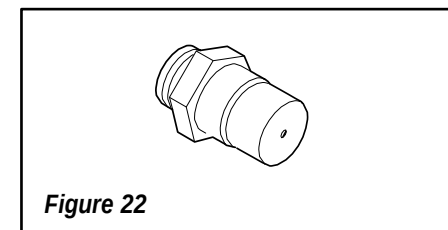

Figure 22
- A.** Remove the orifice from the manifold with a 1/2" deep throat socket. See the following table for orifice sizes for natural and propane models. **Figure 22** illustrates the orifice. Use pipe joint compound or Teflon tape on all pipe fittings before installing (ensure propane resistant compounds are used in propane applications, do not use pipe joint compounds on flare fittings).